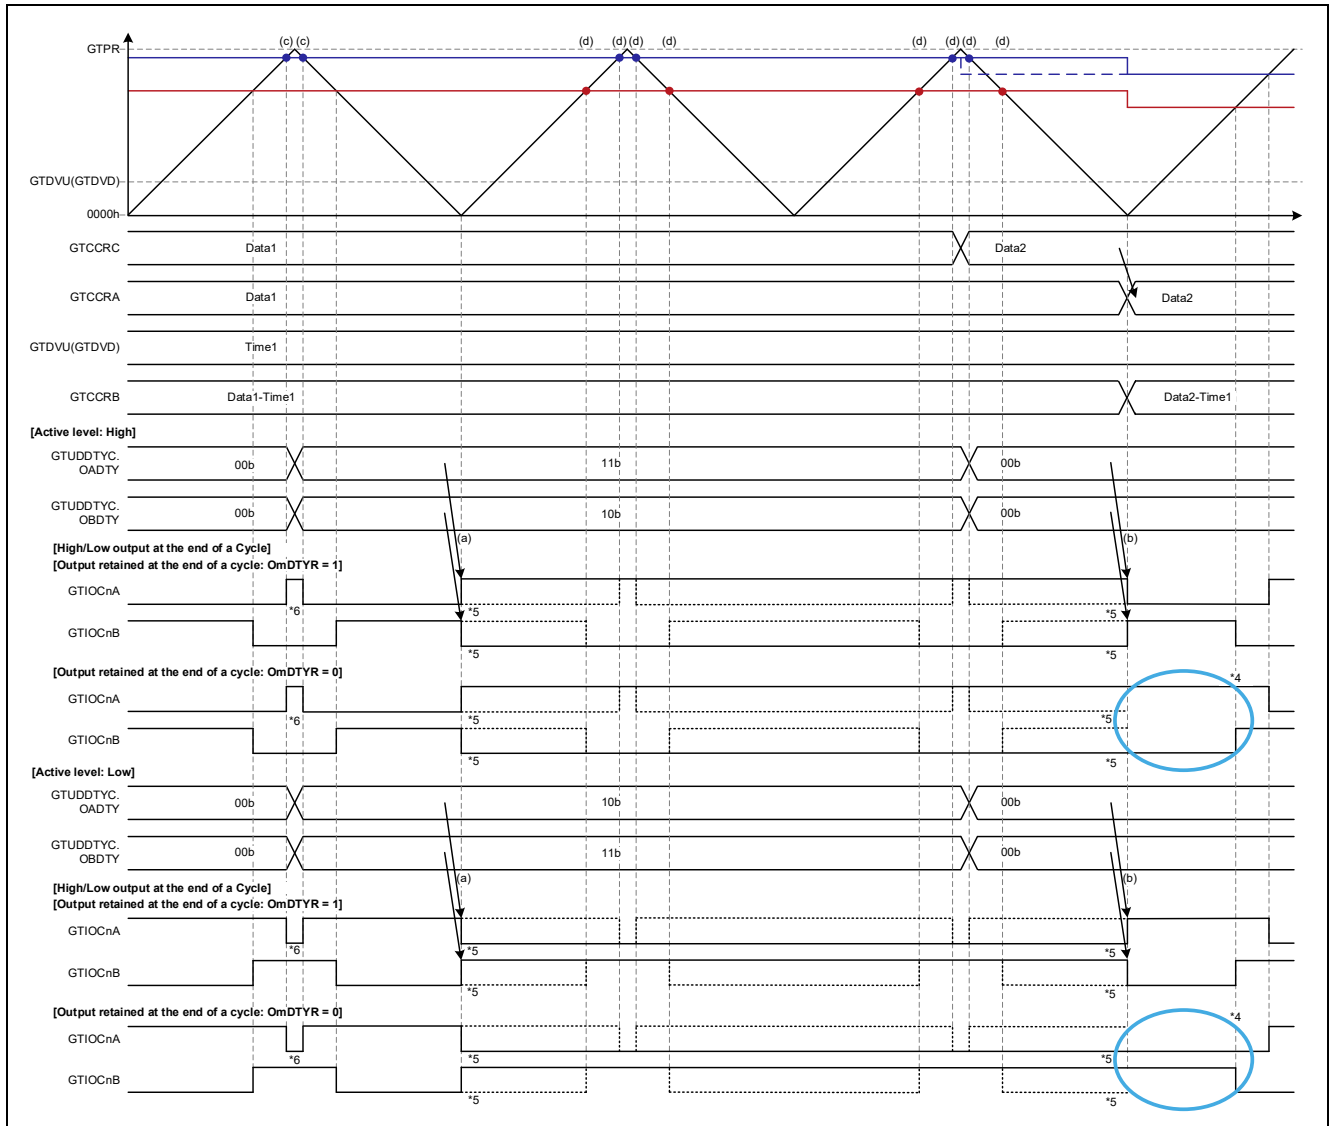
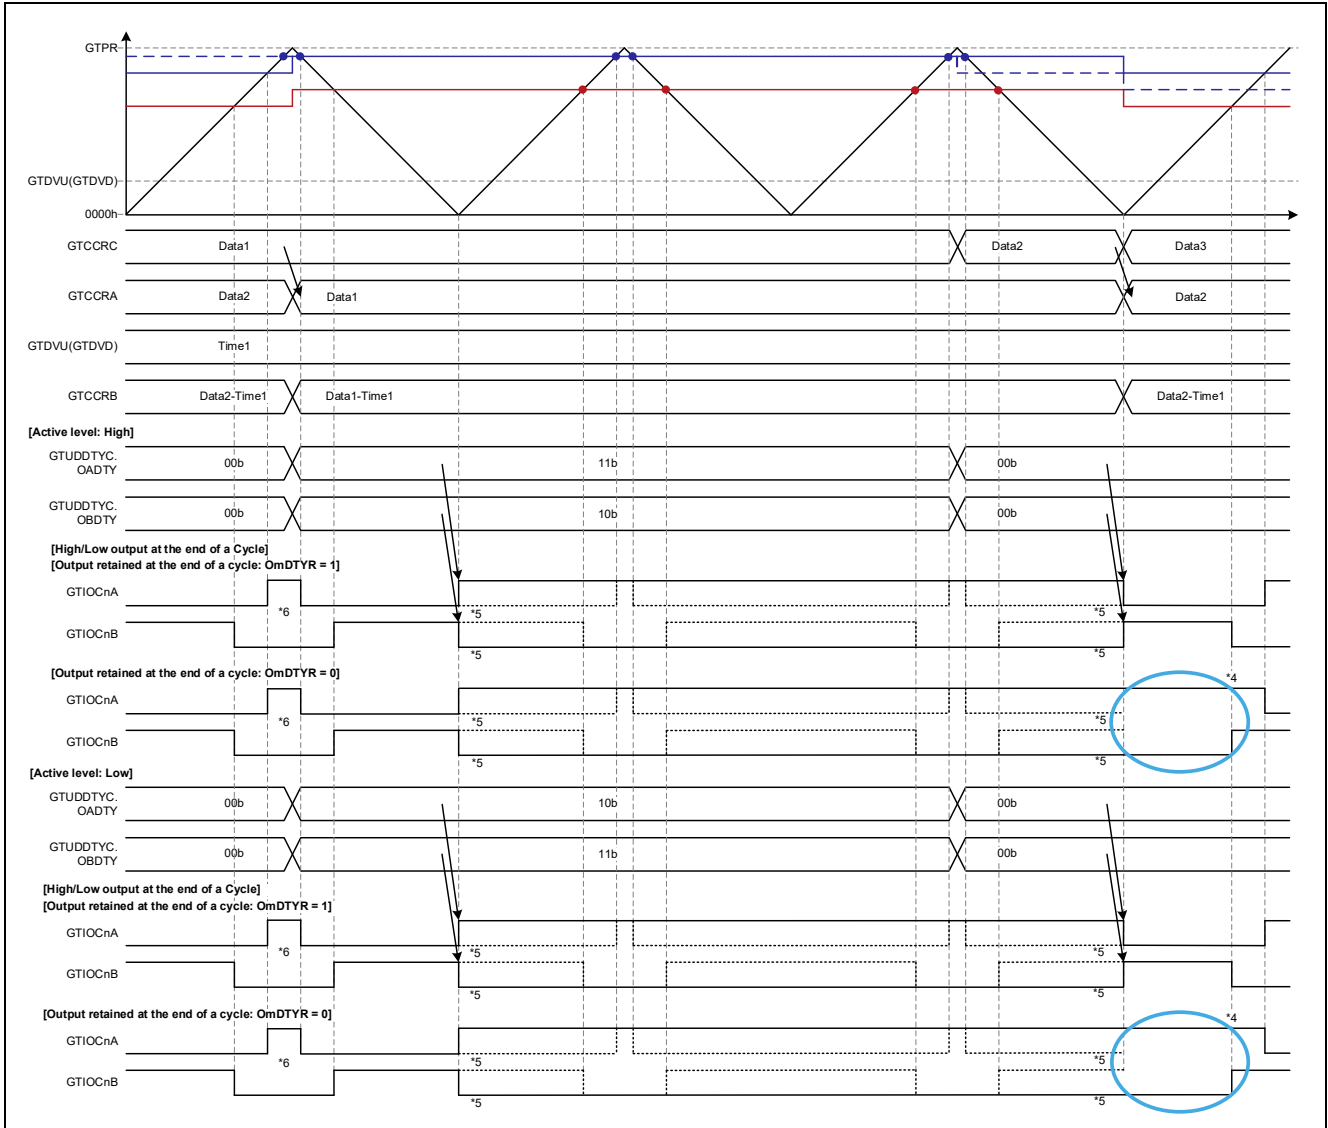
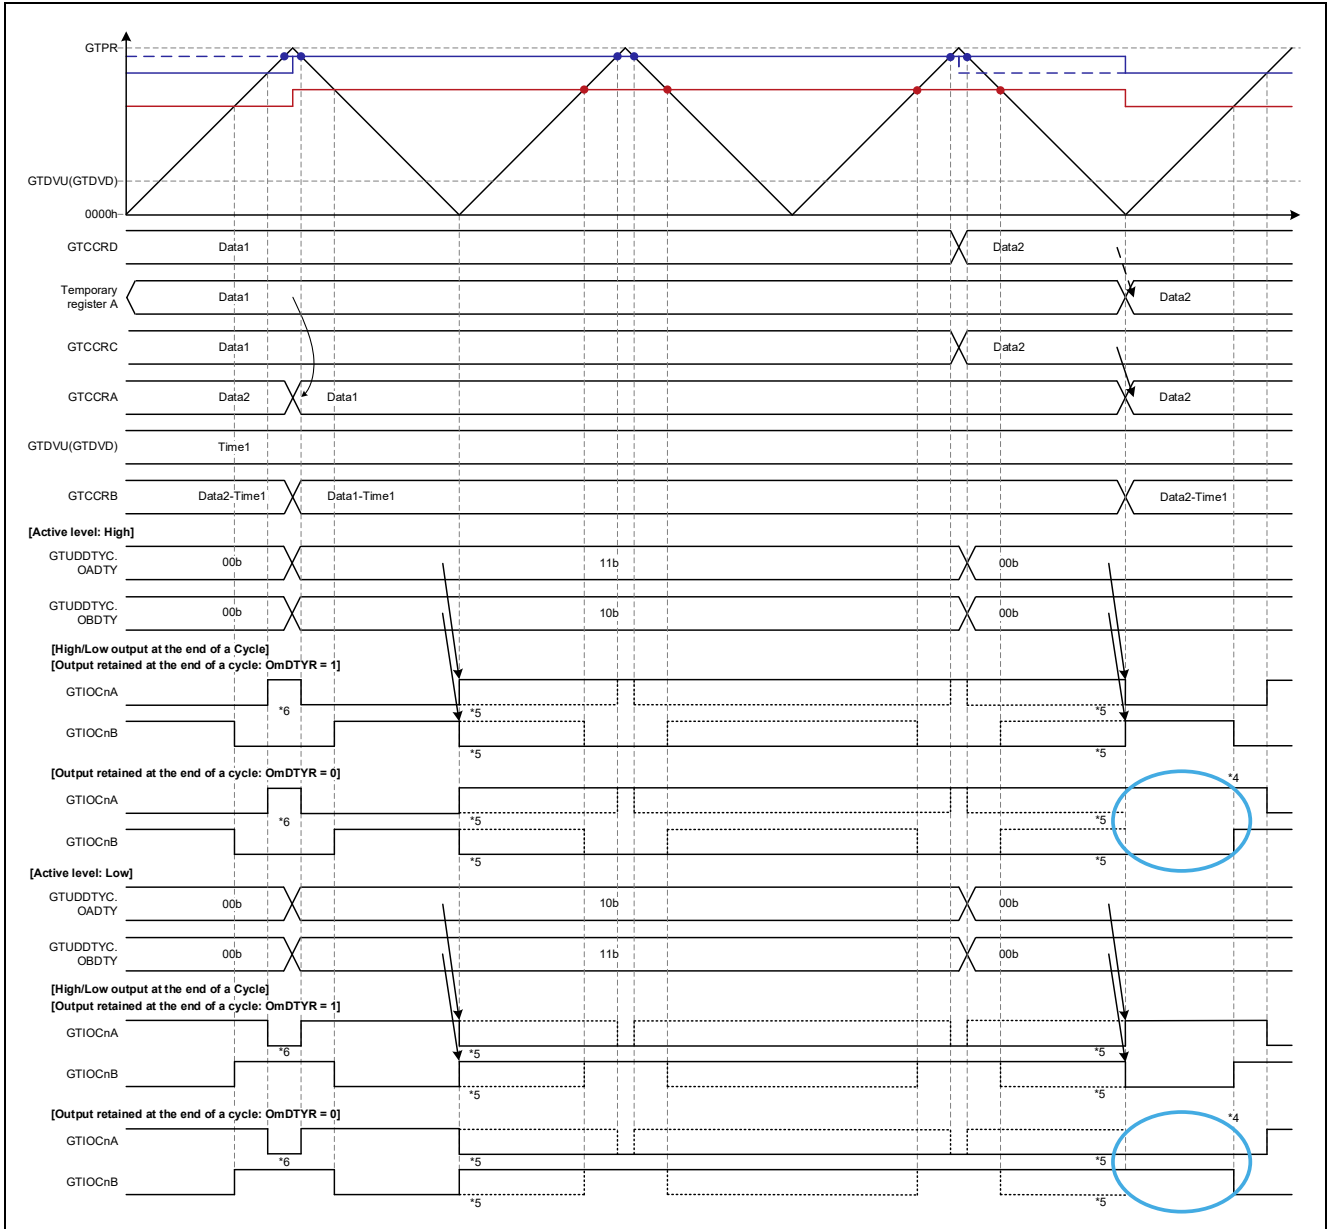
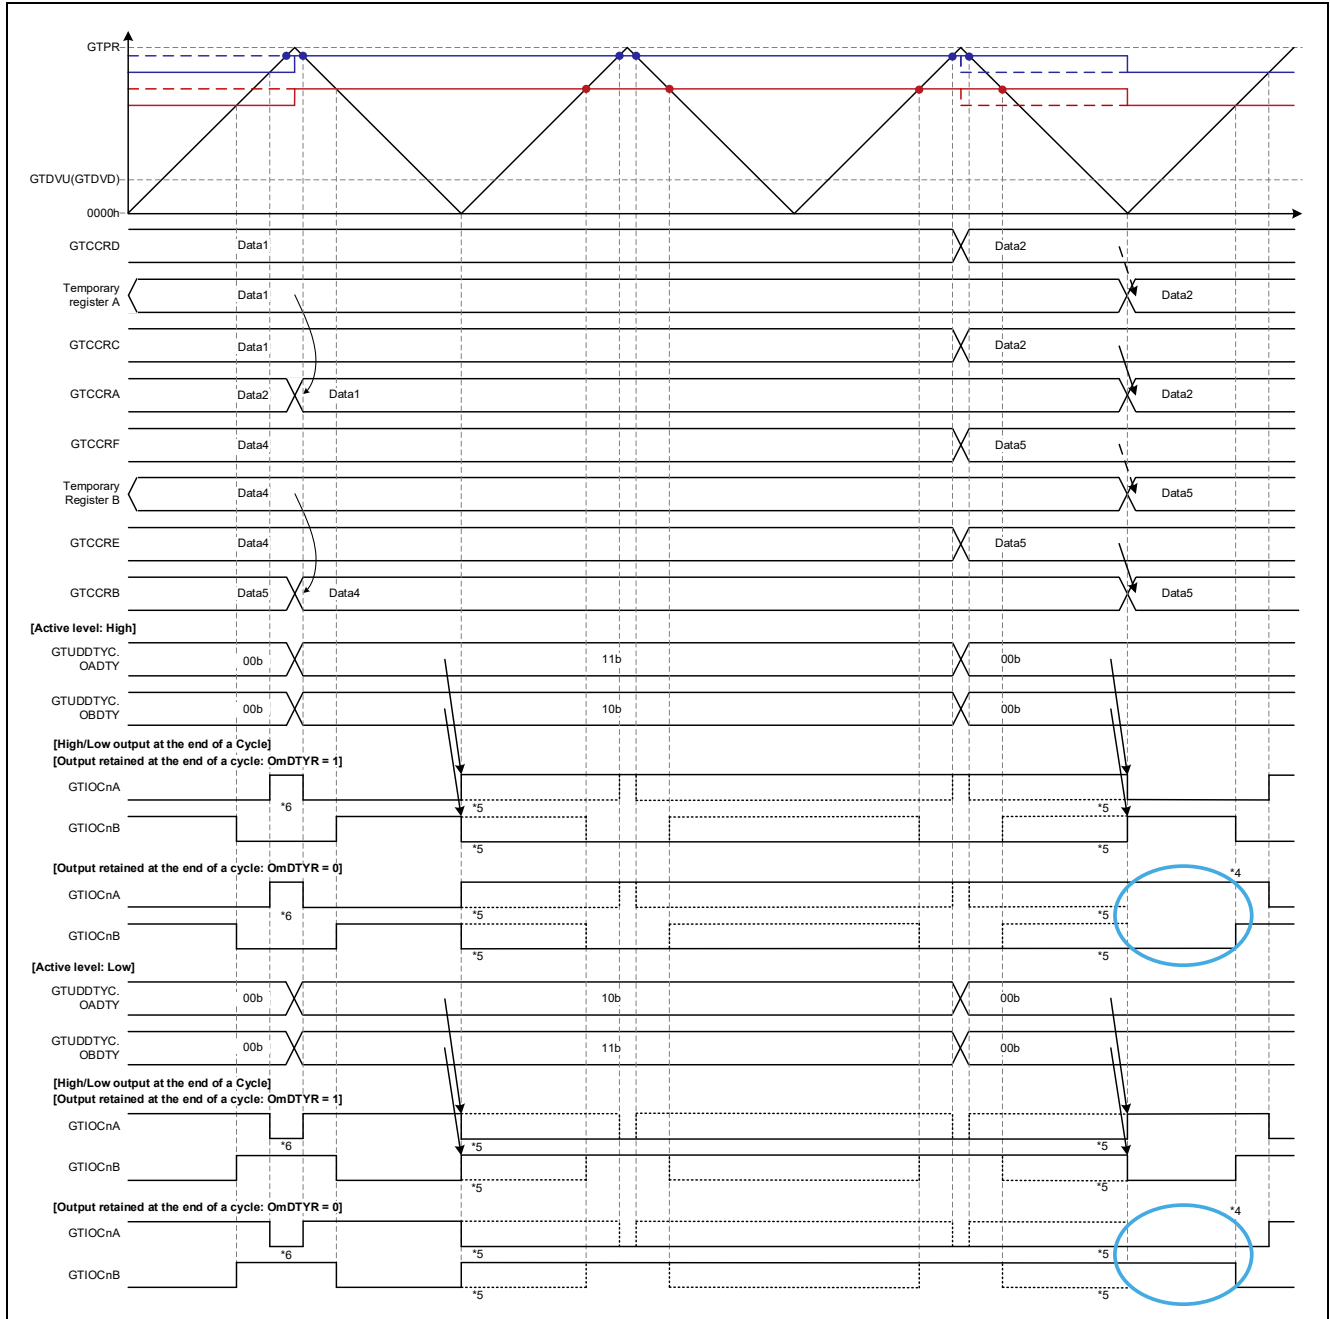

Figure 1.84 Triangle-Wave PWM Mode 1 Operation Example (Output Start: Trough, Automatic Dead Time Setting Function Enabled, Duty: F → 0%/100% → F)
Figure 1.85 Triangle-Wave PWM Mode 2 Operation Example
Figure 1.86 Triangle-Wave PWM Mode 3 Operation Example (Output Start: Trough, Automatic Dead Time Setting Function Enabled, Duty: F → 0%/100% → F)
Figure 1.89 Triangle-Wave PWM Mode 3 Operation Example
Figure 1.84 to Figure 1.89 illustrate the GPTW operating modes and cautions listed in Table 1.10.
- [Operation example 1] Figure 1.84, Triangle-Wave PWM Mode 1, Output Start: Trough, Automatic Dead Time Setting Enabled, cautions 4, 5, and 6
- [Operation example 2] Figure 1.85, Triangle-Wave PWM Mode 2, Output Start: Trough, Automatic Dead Time Setting Enabled, cautions 4, 5, and 6
- [Operation example 3] Figure 1.86, Triangle-Wave PWM Mode 3, Output Start: Trough, Automatic Dead Time Setting Enabled, cautions 4, 5, and 6
- [Operation example 6] Figure 1.89, Triangle-Wave PWM Mode 3, Output Start: Trough, Automatic Dead Time Setting Disabled, cautions 4, 5, and 6
Figure 1.84 shows an operation example with automatic dead time setting function enabled in triangle-wave PWM mode 1.
Figure 1.85 shows an operation example with automatic dead time setting function enabled in triangle-wave PWM mode 2. Except for the difference in the buffer operation in the various modes, the operation is the same as that shown in Figure 1.84.
Figure 1.86 shows an operation example with automatic dead time setting function enabled in triangle-wave PWM mode 3. Except for the difference in the buffer operation in the various modes, the operation is the same as that shown in Figure 1.84.
Figure 1.89 shows an operation example with automatic dead time setting function disabled in triangle-wave PWM mode 3. Except for the difference in the buffer operation in the various modes, the operation is the same as that shown in Figure 1.87.